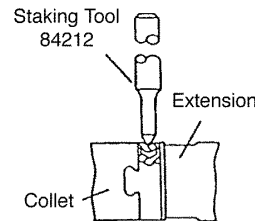
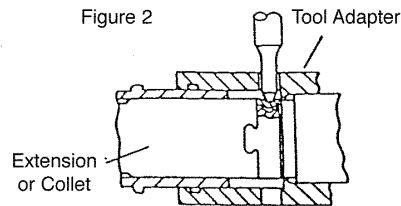

Figure 2
Figure 1
Remove parts of N/assem. for inspection and maintenance. If applicable, pressed-in anvil is pressed out with drift and arbor press; press new anvil in squarely to prevent cracking. **When using extension, stake to tool's spindle/rod before assembling collet -see Fig. 1; use only one shim.** Use wrench to snug-up extension on spindle. Assemble parts as shown -- apply thin coat SUPER O-LUBE to O-rings and O D of sleeve and VIBRATITE to extension W/O lock collar. Use collet wrench to snug-up collet.
6. **Caution: To prevent damage -- after proper adjustment has been made, collet lock collar must be staked.** As applicable, see Fig. 1 and/or Fig. 2. For nose assemblies with sleeve and O-rings, jaw tension on fastener pintail is changed by adding or removing O-ring(s). Use collet wrench to snug-up. Loose lock collars or too many shims (see step 4, 353) may cause holder/anvil damage -- too few shims may cause jaw damage. Reuse lock collars until ineffective.